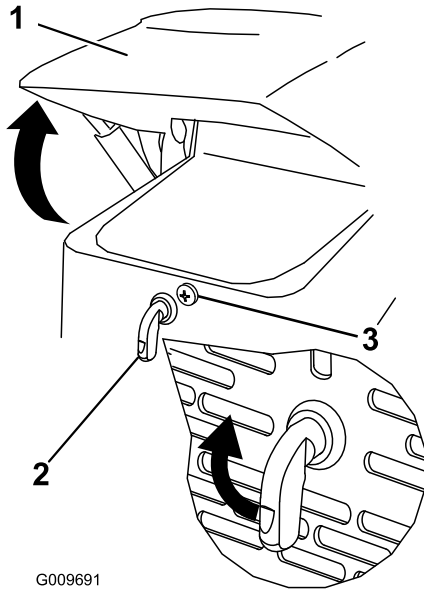

Figure 23
1. Loosen the hood-locking screw (Figure 23)
2. Turn the hood latch clockwise (Figure 23).
3. Swing the hood up (Figure 23).
3. Tighten the hood-locking screw to secure the latch (Figure 23).